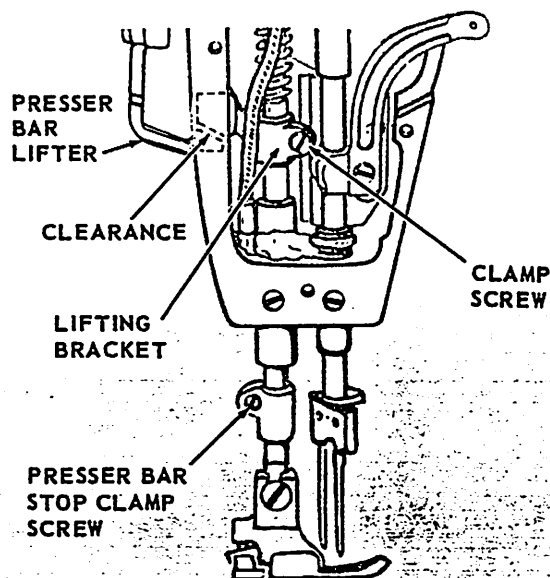
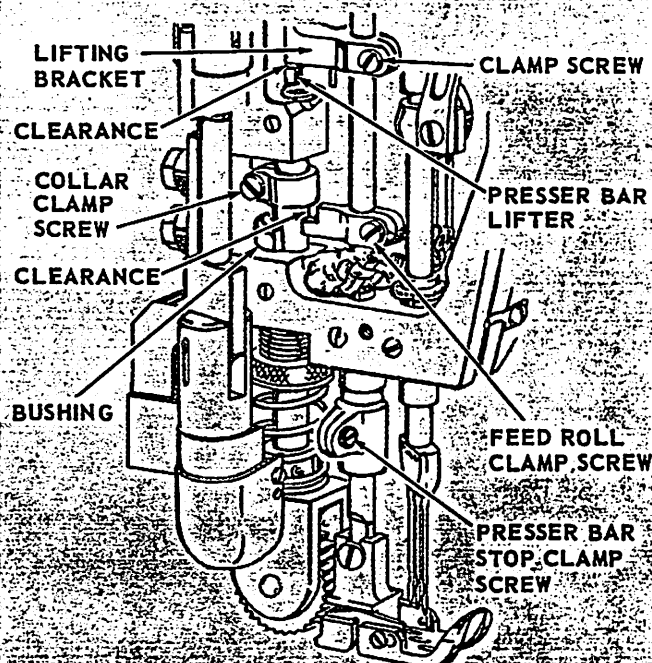

Fig. 30. Setting the Presser Bar
Fig. 31. Setting the Presser Bar Machines 261-32 and 261-42
2. Presser bar lifter and lifting bracket should have a slight clearance between them, as shown in Fig. 30 and Fig. 31.
To adjust, loosen clamp screw in lifting bracket and clamp screw in presser bar stop, as shown in Fig. 30, for all machines except Machines 261-32 and 261-42. See Fig. 31 for these machines.
Loosen feed roll clamp screw and collar clamp screw, shown in Fig. 31. Press collar down to rest on top of the lower bushing and tighten clamp screw.